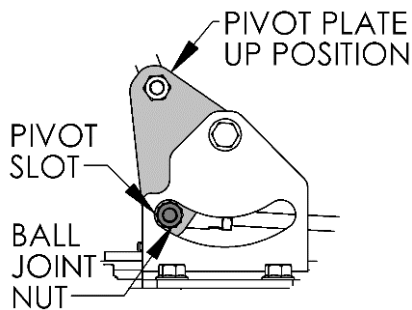

FIGURE 16.2
- 4) The Pivot Plate should be in the up position and the Ball Joint Nut should be nearly bottomed out in the slot as shown in **FIGURE 16.2**.